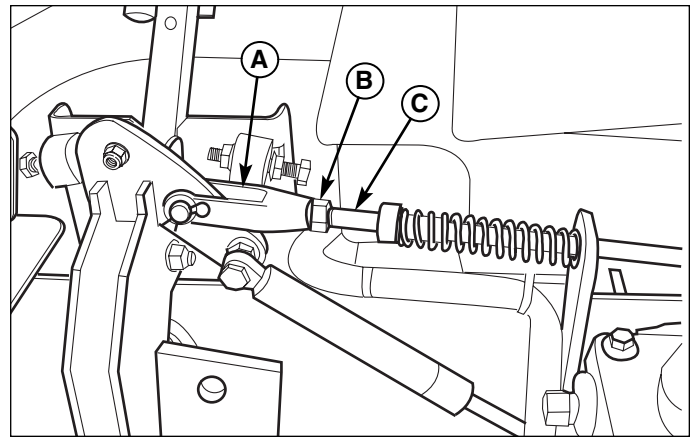

Figure 13. Return-To-Neutral Adjustment
3. Move the ground speed control levers out towards the neutral position. If the levers do not align with the notches in the neutral lock plate, it is necessary to adjust the neutral return rod (C, Figure 13).